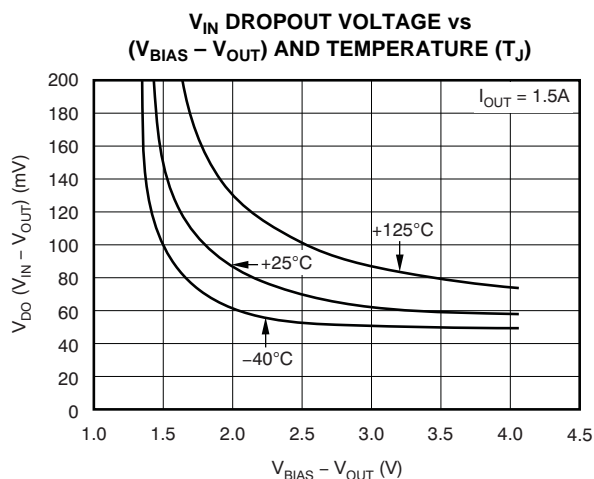

Figure 8.
(1) Adjustable devices tested at 0.8V; resistor tolerance is not taken into account.
(2) Dropout is defined as the voltage from  $V_{IN}$  to  $V_{OUT}$  when  $V_{OUT}$  is 3% below nominal.
(3) 3.25V is a test condition of this device and can be adjusted by referring to Figure 8.
(1) 3.25V is a test condition of this device and can be adjusted by referring to Figure 8.